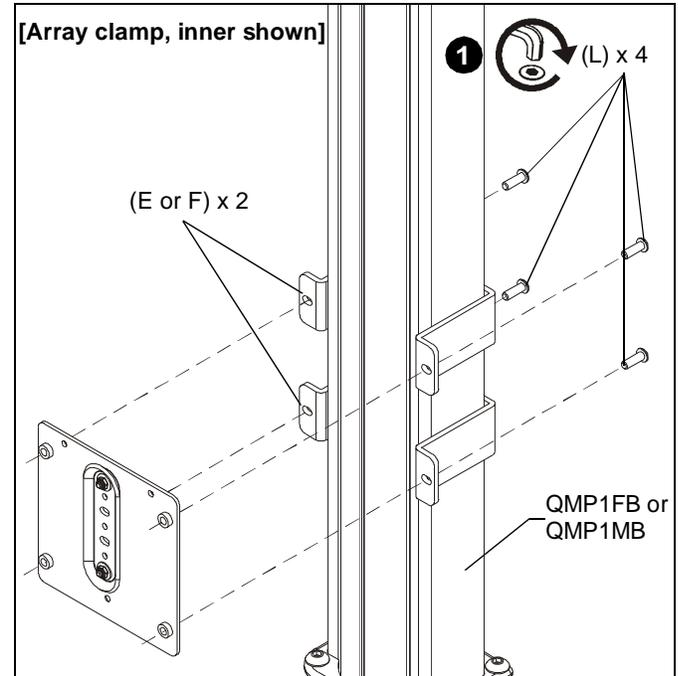

Figure 2
- Array clamp, outer (F) is used to attach height-adjust assembly (C) to OUTER column of cart/stand (below adjustment knob).
- Array clamp, inner (E) is used to attach height-adjust assembly (C) to INNER column of cart/stand (above adjustment knob).
4. Attach two array clamps (E or F) around cart/stand column to attachment plate assembly using four 1/4-20 x 3/4" button head cap screws (L). (See Figure 2)